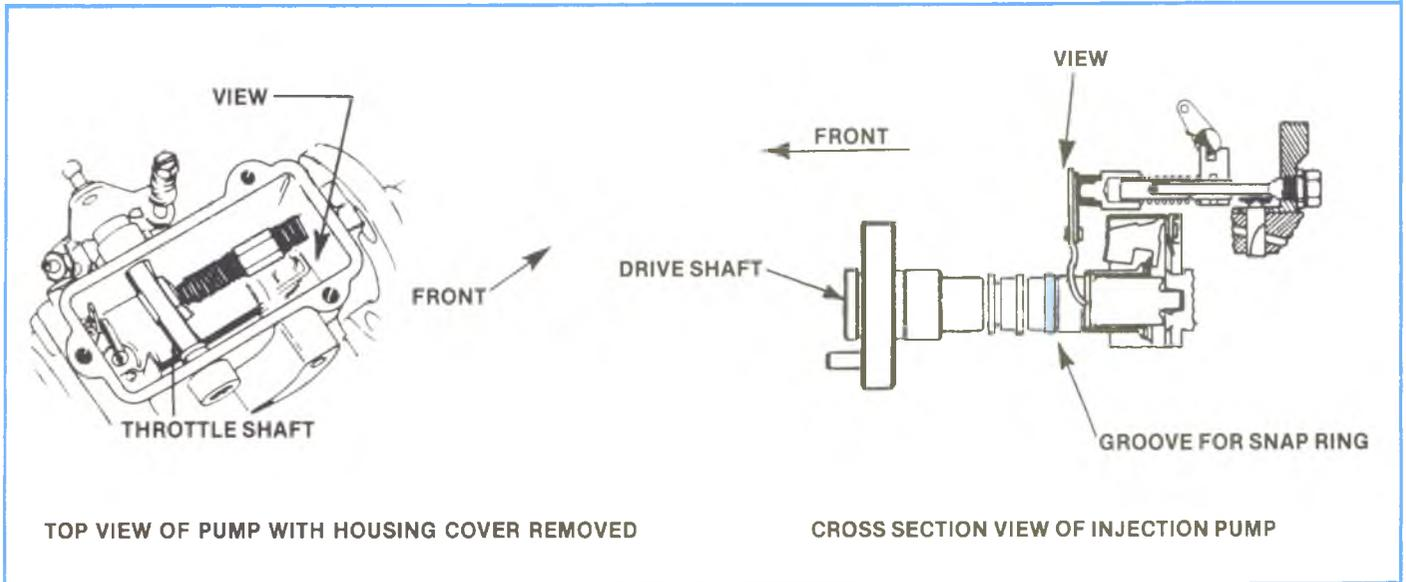

Figure 7-2, Diesel Injection Pump.
**STEP 4** Using a flashlight, look between the forward edge of the housing and the governor. The main shaft will be visible below the governor. Where the main shaft enters the forward edge of the housing, a snap-ring should be visible. The use of a mirror may help to get a better view. Refer to Figure 7-2.